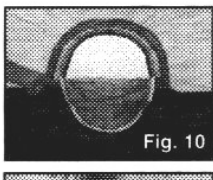

Fig. 10
1. To use as a vent, unzip flap to expose screen. (Fig. 10)